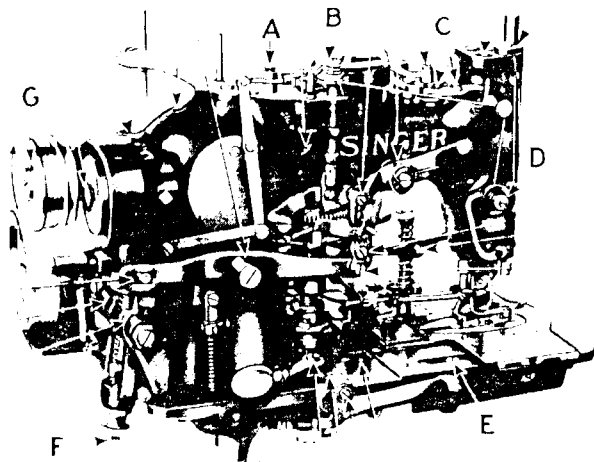

Fig. 7. Oiling Points at the Left of the Machine
Occasionally remove the screw (G, Fig. 7) from the loose pulley and apply a small quantity of BALL BEARING LUBRICANT to the ball bearing of the pulley through the tapped hole, using BALL BEARING LUBRICANT sold by Singer Sewing Machine Company, then replace the screw (G).